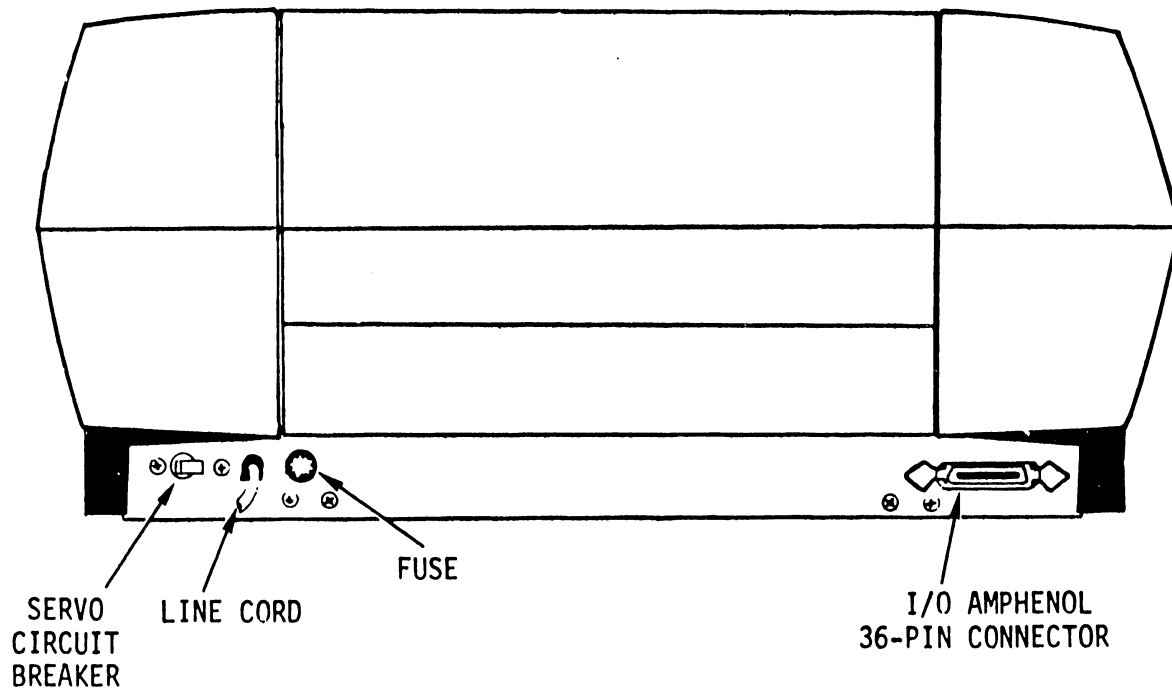
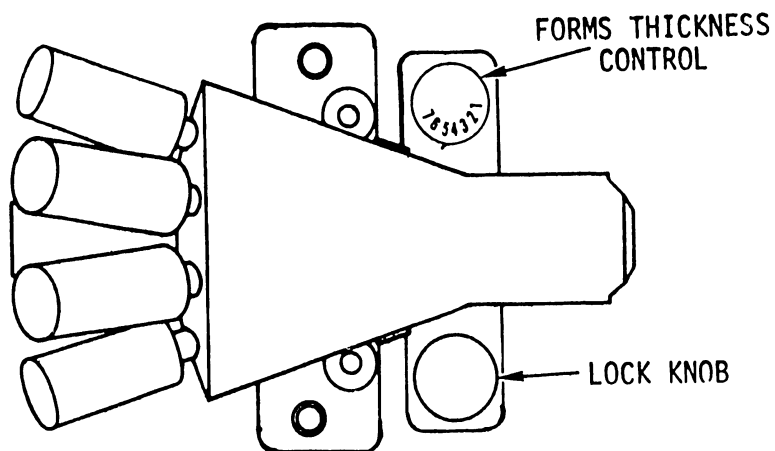

FIGURE 2-6 PRINTER (REAR VIEW)
FIGURE 2-7 FORMS THICKNESS CONTROL
- SERVO CIRCUIT BREAKER:** Resettable breaker switch which opens when Servo Current exceeds breaker limit. See Figure 2-6.
- MAIN FUSE:** 4 amp (SB) 250 volt fuse for 115 VAC or 2 amp (SB) for 230 VAC which fuses entire unit.
**FORMS THICKNESS CONTROL:** The form thickness control (Figure 2-7) will move the head closer to or further from the striker bar. When paper of different thickness is put into the unit, the head will probably have to be repositioned. Loosen the lock knob (turn CCW), turn the forms thickness knob in desired direction and retighten the lock knob.